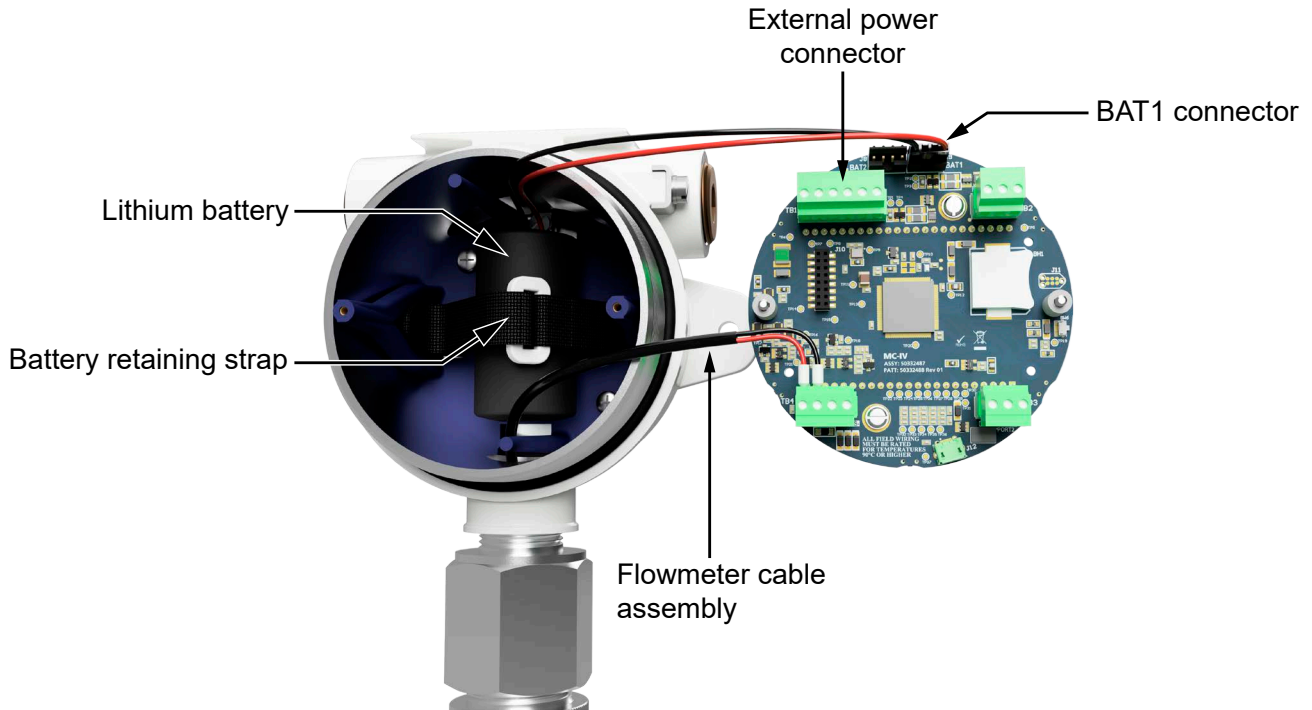

Figure 4.2—Removal/replacement of lithium battery
4. Loosen the battery retaining strap, disconnect the battery from the BAT1 (or BAT2) connector on the circuit assembly, and remove the battery from the enclosure (Figure 4.2). If there are two batteries, replace them one at a time to prevent any potential loss of measurements.